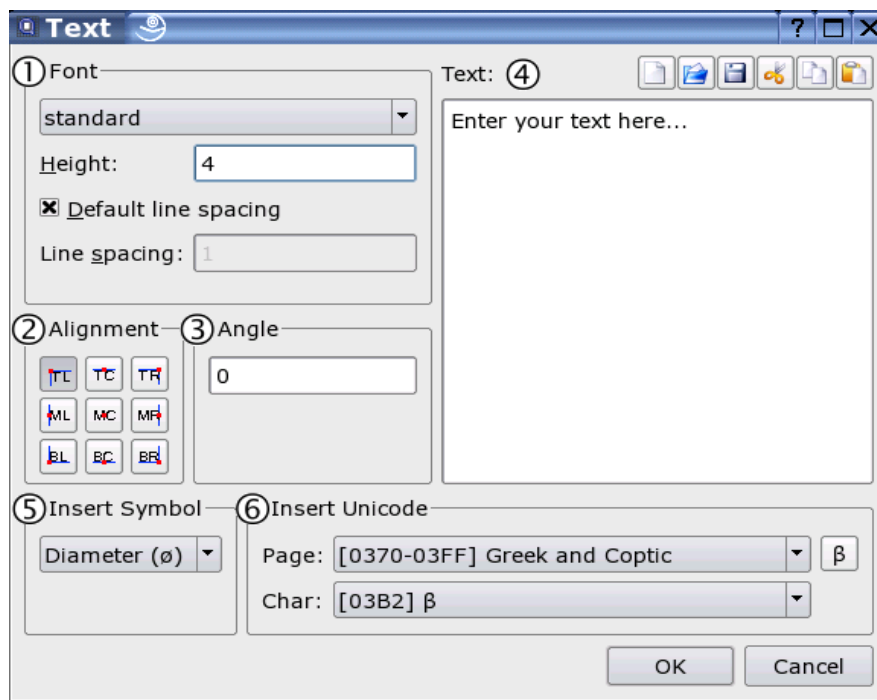

Figure 34: The text creation dialog.
1. Just after launching the tool, the text dialog is presented in which you can choose the font and enter the text you want to create (Figure 34).
2. Choose the font name and attributes in the upper left area of the dialog (Figure 34/1). For a complete list of all available fonts, please refer to the appendix. In the "Height" field, enter the height of the text in the unit of your drawing. To choose normal line spacing, click the checkbox "Default line spacing". You can increase or decrease the line spacing by disabling the checkbox and entering a value in the "Line spacing" box. The value entered is a factor relative to the default (1.0). Valid values range from 0.25 to 4.00. Values outside this range are allowed but break compatibility to other CAD programs such as AutoCAD.
3. Choose the alignment of the text (Figure 34/2).
4. Enter the angle for the text (Figure 34/3). Normal horizontal texts have an angle of zero degrees.
5. Enter the text you want to create in the large text box (Figure 34/4). You can also use the icons above the box to load texts from files, save texts that you have entered or to paste texts from the clipboard.
To enter special symbols that are not available on your keyboard, you can use the combobox at the bottom left of the dialog (Figure 34/5). Simply choose a symbol from the list and it will be placed at the current cursor position in the text box.
If the symbol list does not contain the symbol you need, please use the comboboxes at the bottom right to choose any character from the unicode char set (Figure 34/6). Note that the font you have chosen might not contain the characters you insert. In that case the characters will not be displayed in the drawing.